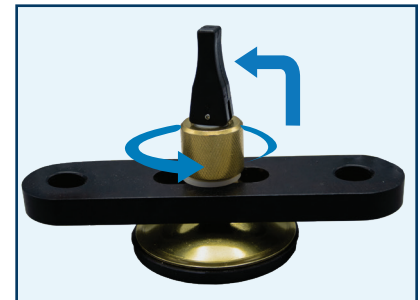

Figure 1
3. If needed, move the locking lever to the unlocked position (*perpendicular* to the cup face) and loosen the barrel nut (Figure 1), to allow installation of the adapter arm.